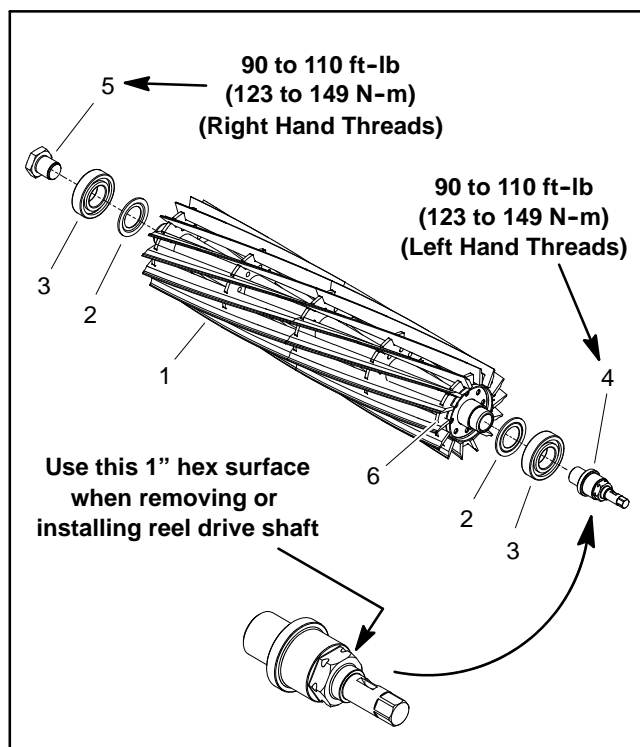

Figure 35
IMPORTANT: If reel drive shaft (item 4 in Fig. 35) is to be loosened, use appropriate wrench or socket on 1" hex surface of shaft. Do not use 1/2" extension on end of reel drive shaft when loosening or tightening drive shaft. The 1/2" hex is intended for backlapping only.
4. If bearings or seals are to be removed from cutting reel, put a block of wood between the cutting reel blades to prevent the reel from rotating. Loosen bearing lock screw (RH threads) and reel drive shaft (LH threads) to allow easier removal after reel assembly is removed from cutting unit (Fig. 35).
8. Remove shoulder bolts (item 4) and flange nuts (item 5) that secure the RH side plate to the cutting unit crossmember. Remove the RH side plate from the reel shaft, rollers, bedbar and cutting unit crossmember. Remove pitch arm (item 7) and compression spring (item 3) from RH side plate.
9. Carefully slide the cutting reel assembly (with flocked seals, reel bearings, bearing lock screw and reel drive shaft) from the LH side plate. Locate and remove flat wire spring (item 14).
3. Position the cutting unit on a flat work area. The rollers, bedbar and cutting unit crossmember should be attached to LH side plate. Make sure that pitch arm (item 15) and compression spring (item 3) is fitted to LH side plate.
5. Carefully slide the RH side plate with pitch arm (item 7) and compression spring (item 3) onto the cutting reel assembly, front roller and rear roller. Make sure that side plate is fully seated onto bearing on reel shaft.
6. Install shoulder bolts (item 4) and flange nuts (item 5) to secure the RH side plates to the crossmember. Torque the shoulder bolts from **210 to 240 in-lb (24 to 27 N-m)**.
IMPORTANT: If reel drive shaft (item 4 in Fig. 35) is to be tightened, use appropriate wrench or socket on 1" hex surface of shaft. Do not use 1/2" hex on end of reel drive shaft when loosening or tightening drive shaft. The 1/2" hex is intended for backlapping only.
7. If bearing lock nut (RH threads) and reel drive shaft (LH threads) were loosened during cutting reel service, put a block of wood between the cutting reel blades to prevent the reel from rotating. Torque bearing lock nut (RH threads) and reel drive shaft (LH threads) from **90 to 110 ft-lb (123 to 149 N-m)** (Fig. 35).